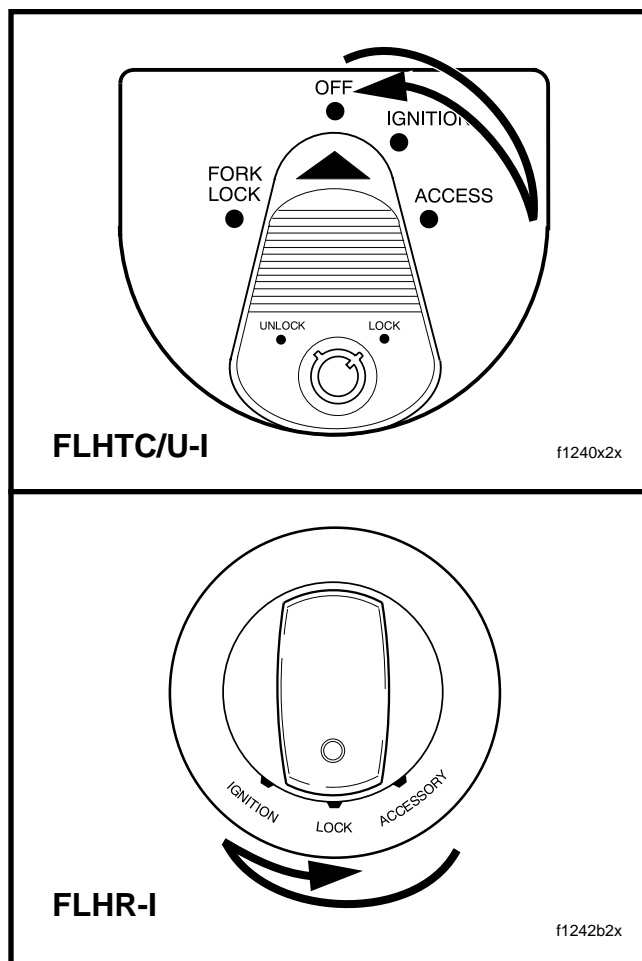

Figure 1. Ignition/Light Key Switch
- The Ignition/Light Key Switch is turned to the ACCESS(ORY) position and then returned to OFF momentarily stopping in the IGNITION position. See upper frame of Figure 1.
- The Ignition/Light Key Switch is turned to the IGNITION position and then rapidly returned to LOCK. This may occur if the operator momentarily overshoots the LOCK position while turning the knob from ACCESS(ORY). See lower frame of Figure 1.